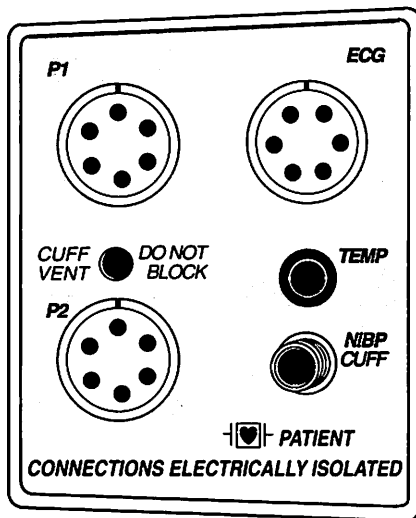
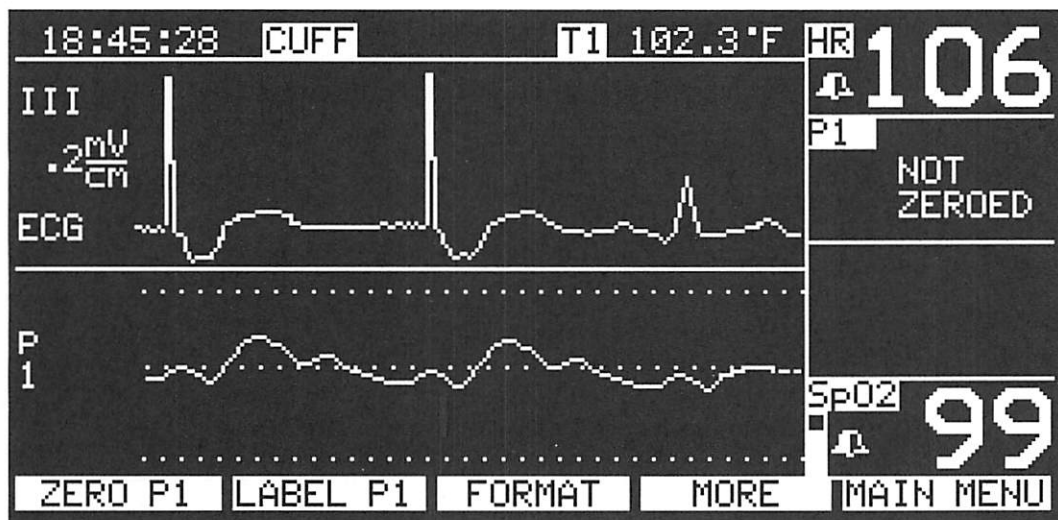

Figure 2-12. Invasive Pressure connectors
Figure 2-14. Invasive Pressure zeroing
- 3 If the transducer is a disposable unit with separate cable, connect the transducer to the transducer cable. Plug the transducer cable into an invasive pressure connector on the left side panel (Figure 2-12). The message NOT ZEROED (or NO ZERO, depending on the zone) immediately appears in the blood pressure numerics window for the invasive pressure channel being used (Figure 2-14 on page 2-27).